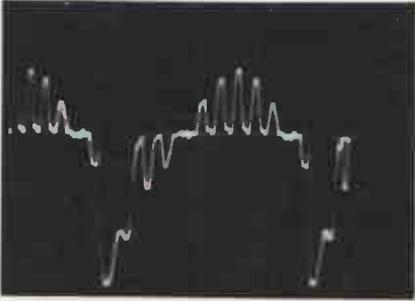

FIG. 5-9. B-Y waveform.
6. Now, move the oscilloscope probe to the control grid of the blue gun and check the $+(B-Y)$ signal. As Fig. 5-9 shows, the *third* and *ninth* bars, which represent $+(R-Y)$ and $-(R-Y)$ respectively, should pass through zero. (The *sixth* bar should be at maximum positive amplitude). If they do not, a fault is indicated in the phase-shift network or the matrix amplifier.